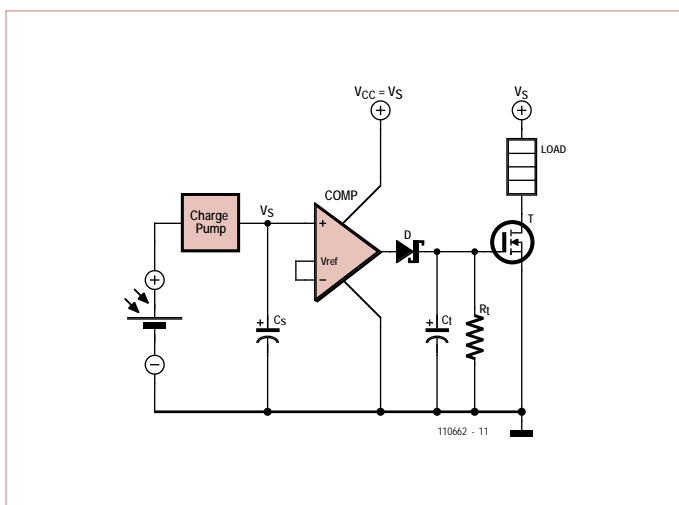

Figure 1. Basic block diagram of the energy harvesting circuit.
**Figure 1** shows the block diagram. The output of the solar cell is connected to a voltage multiplier, which charges the storage capacitor  $C_s$ . A number of voltage multiplier designs were discussed in detail in this year's January issue of *Elektor*, so here the multiplier is shown as a functional block. The opamp in the block diagram is a comparator that is powered from the storage capacitor. In practice there are also a few resistors around the comparator. When the plus input reaches the threshold voltage, the output of the comparator goes high (to the level of supply voltage  $V_s$ ) and the transistor is driven into conduction. Current supplied by  $C_t$  and  $R_t$  keeps the transi-